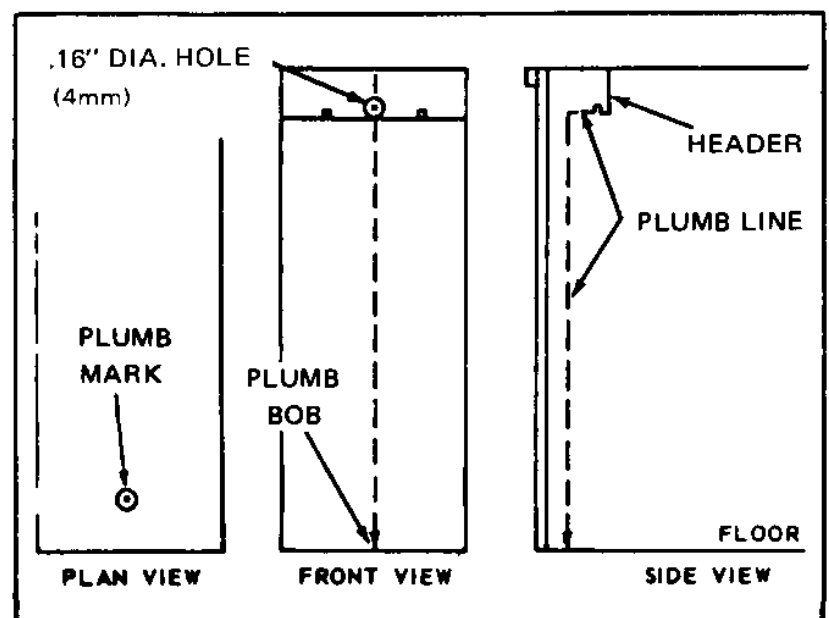

Figure 23. Plumbing Switchgear Units
will have a plumb mark stamped on the floor plate. This mark is located inside the breaker drawout compartment and is represented by a center punch mark with a circle around it. Directly above this mark is a .16" (4 mm) dia. hole in the header of the breaker compartment, as illustrated in Figure 23. Insert the plumb bob line through this hole toward the inside of the compartment, and tie off line with plumb bob hanging free. The point of the plumb bob must be within .12" (3.2 mm) of the factory installed plumb mark represented by the center punch. The circle around the punch has no meaning and is only an aid to locate the punch mark. All plumb readings should be taken with anchor bolts tight. If it is not within .12" (3.2 mm), it could be due either to unlevel sills or the cubicles being damaged in shipment. Check first to insure that sills are level. If sills are not level, add 4" x 4" (100 x 100 mm) steel shims on top of sill, adjacent to the anchor bolts, as necessary to achieve a level floor in all cubicles and to insure that all cubicles are in firm contact with the foundation at each anchor point. Tighten the anchor bolts. If plumb bob point is still not within .12" (3.2 mm) after floor leveling, proceed to step No. 5 below.
punch mark with a circle around it. Directly above this mark is a .16" (4 mm) dia. hole in the header of the breaker compartment, as illustrated in Figure 23. Insert the plumb bob line through this hole toward the inside of the compartment, and tie off line with plumb bob hanging free. The point of the plumb bob must be within .12" (3.2 mm) of the factory installed plumb mark represented by the center punch. The circle around the punch has no meaning and is only an aid to locate the punch mark. If the plumb bob reading exceeds the .12" (3.2 mm) limitation, does the cubicle read the same direction and approximately the same distance from the punch mark? If this condition exists it would normally indicate that the slab, piers or pilings, as the case may be, are not level and/or are not in the same plane. The addition of shims between foundation and the bottom of the beam should bring shipping group to level showing plumb reading within the .12" (3.2 mm) tolerance. Note all plumb readings are to be taken with anchor bolts tight.
4. The switchgear equipment represented was accurately aligned on level steel bed plates at the factory. This care insures proper operation and fit of mating parts. supporting surfaces for the switchgear's 4 x 6 (101.6 x 152.4 mm) beams must be level and in the same plane within .06" (1.6 mm). If concrete, grouted channels, pier support plates, etc. do not meet this requirement, or if there is any projection higher than the support points in line with beams, shims must be installed in the following manner to provide equivalent true surface for switchgear support. 5kV and 15kV outdoor switchgear groups which have been assembled on 4 x 6 (101.6 x 152.4 mm) beams must be supported along these beams with the maximum span between support points not exceeding nine (9) feet (2743 mm). When switchgear line-up includes 1000 MVA breakers this maximum span must be decreased to six (6) feet (1830 mm). If shims are required use 4" (100 mm) square strips placed between bottom of beam and foundation, in the anchor bolt area where they will be clamped firmly in place.
6. The first breaker cubicle in from each end of every shipping group will have a plumb mark stamped on the floor plate. This mark is located inside the breaker drawout compartment and is represented by a center punch mark with a circle around it. Directly above this mark is a .16" (4 mm) dia. hole in the header of the breaker compartment, as illustrated in Figure 23. Insert the plumb bob line through this hole toward the inside of the compartment, and tie off line with plumb bob hanging free. The point of the plumb bob must be within .12" (3.2 mm) of the factory installed plumb mark represented by the center punch. The circle around the punch has no meaning and is only an aid to locate the punch mark. If the plumb bob reading exceeds the .12" (3.2 mm) limitation, does the position of the deviation in each end breaker cubicle read the same direction and approximately the same distance from the punch mark? If this condition exists, it would normally indicate that the slab, piers or pilings, as the case may be, are not level and/or are not in the same place. The addition of shims between foundation and the bottom of the beam should bring shipping group to level showing plumb reading within the .12" (3.2 mm) tolerance. Note all plumb readings are to be taken with anchor bolts tight.